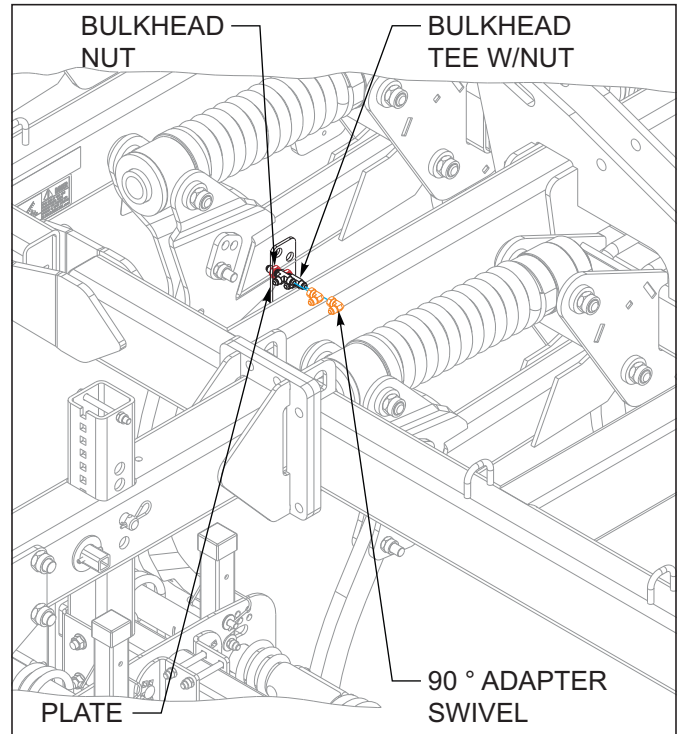

Figure 3-24: Bulk Head Fittings Installation
9. On hydraulic 3BCT/Chopper Reel option, install the bulkhead tee w/nut and 90° adapter swivel to plate on frame as shown See Figures 3-24.